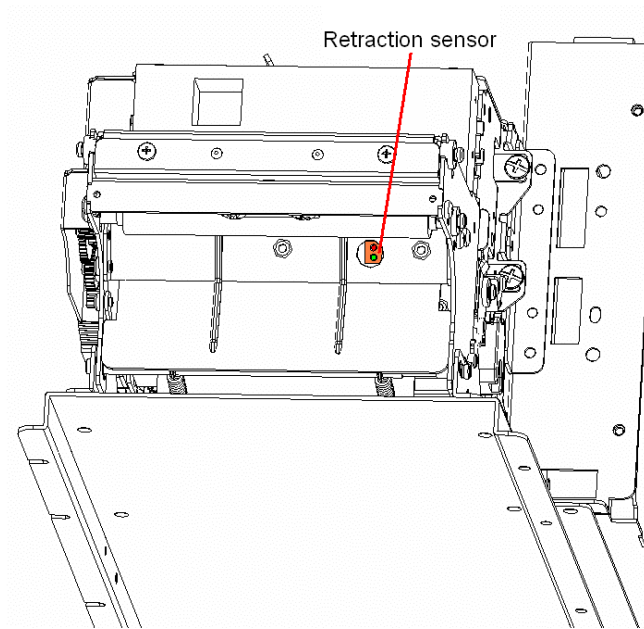

Fig.5.2-9 Cleaning retraction sensor
2. Shown as in Fig.5.2-9, you can view the retraction sensor at the retraction path of PRESENTER. Wipe away the dust and stains on the sensor surface in using cotton swabs (twisted) dipped with pure alcohol;